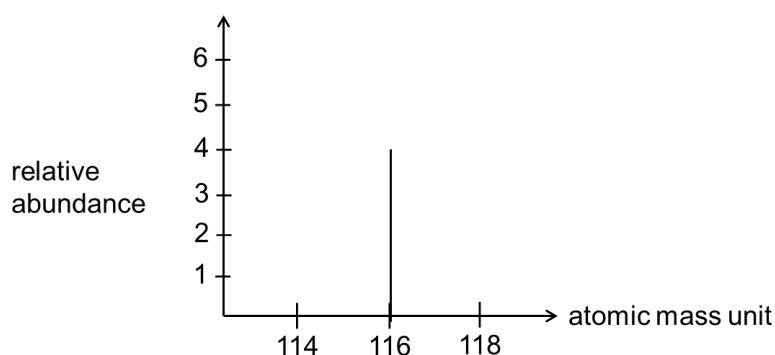

Fig. 5.2
- (iv) Hence, calculate the relative abundance of BrCl with atomic mass unit of 114 and 118, and complete Fig 5.2.